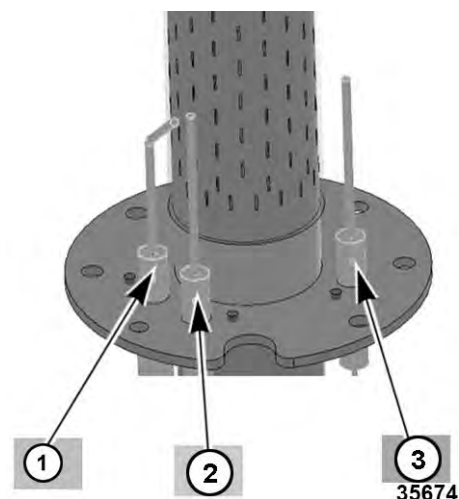
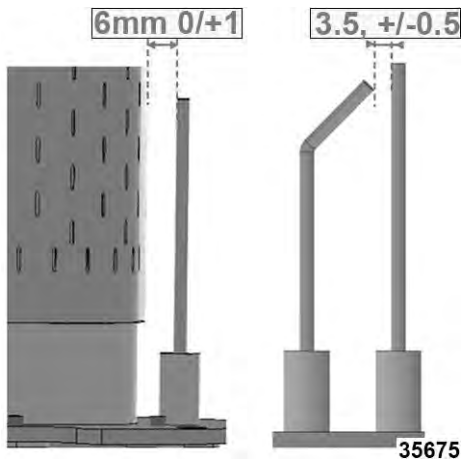

Fig. 129
Fig. 130
3. Measure dimensions as shown in Fig. 129 and Fig. 130.